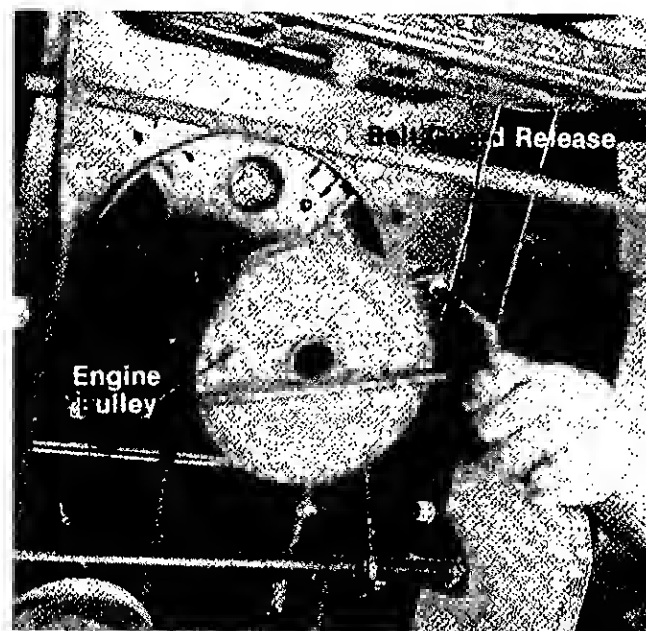

FIGURE 23.
3. Unscrew the belt guard release next to the engine pulley. (See figure 23.)